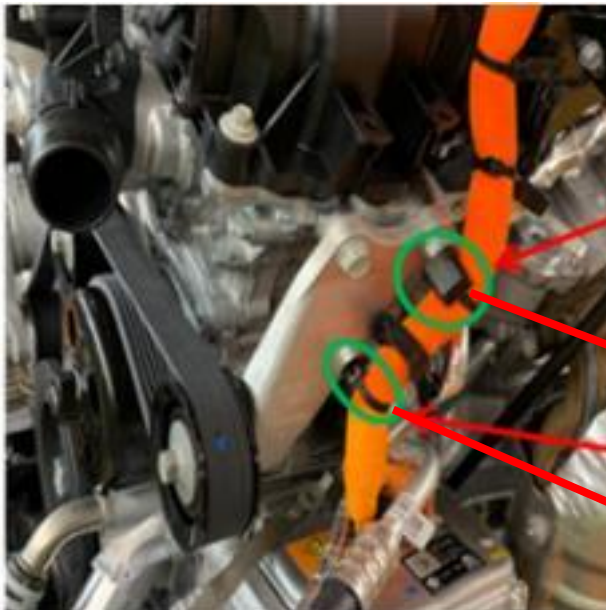

Figure 9 – Clip Attachment
15. Measuring from the AC compressor electrical connector install the High Voltage (HV) wire harness clips on to the harness and attach them to the idler pulley bracket as shown in (Figure 9).